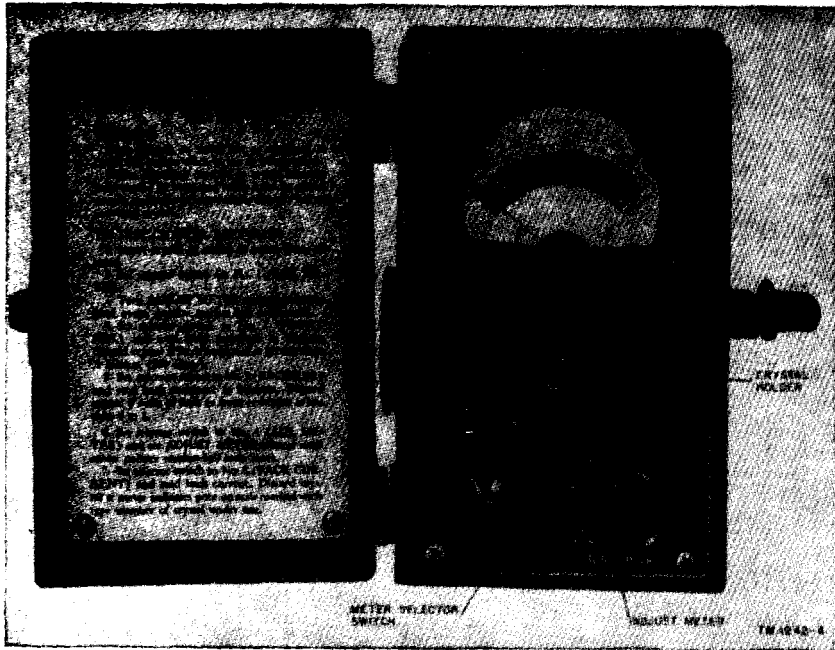

Figure 5. Crystal Rectifier Test Set TS-268B/U, front panel view.
a. Crystal Rectifier Test Set TS-268 (*)/U (fig. 5) is powered from a 1.5-volt dry battery mounted within the case. It has a 0- to 1-ma (milliampere) d-c (direct-current) meter for indications of good or poor crystals. It has a rotary selector switch, meter adjust potentiometer, and crystal socket holder on the front panel. All circuit components are mounted beneath this panel.